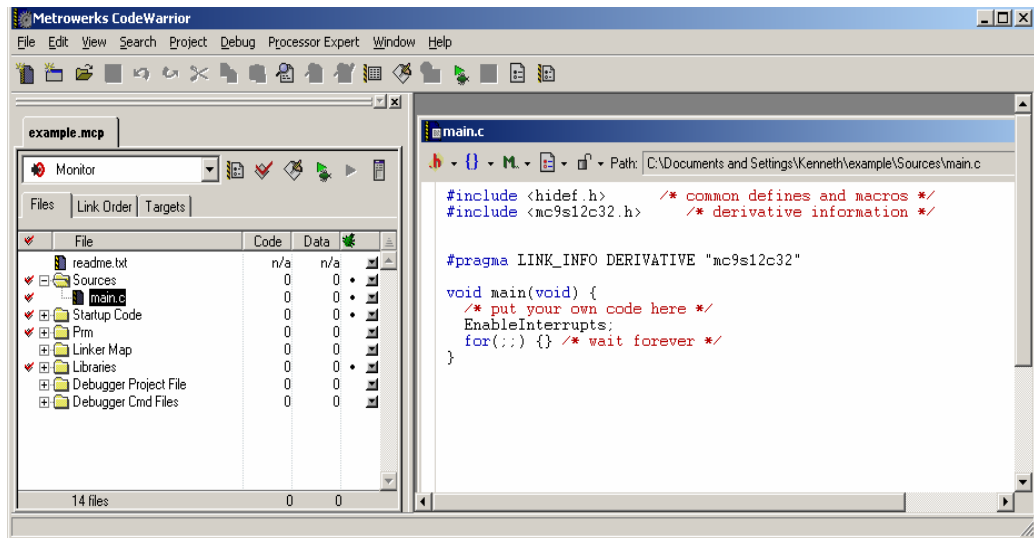

Figure 11
- **Figure 11**-The source code window called main.c should popup. This is where you write the source code (the embedded C code) for your project